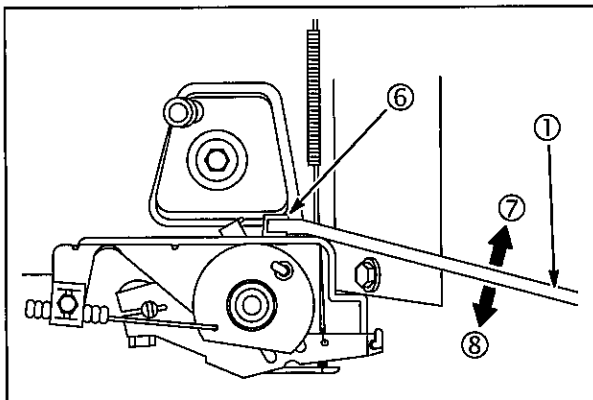

Fig. 34
6. Use Tool #19352 (1) to bend tang (6) UP (7) to increase and DOWN (8) to decrease engine speed, to obtain desired Top No-Load RPM, Fig. 34.